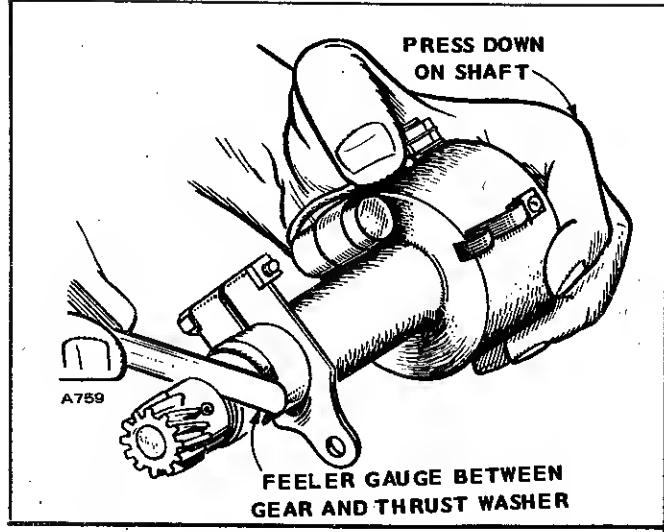

FIGURE 44. CHECKING END PLAY
- Check the drive shaft end play (Fig. 44). It should be between .003" and .010". If end play is too small, tap the lower end of the distributor drive shaft lightly with a soft hammer to increase play. If it is too great, check the thrust washer installation or re-install the gear.